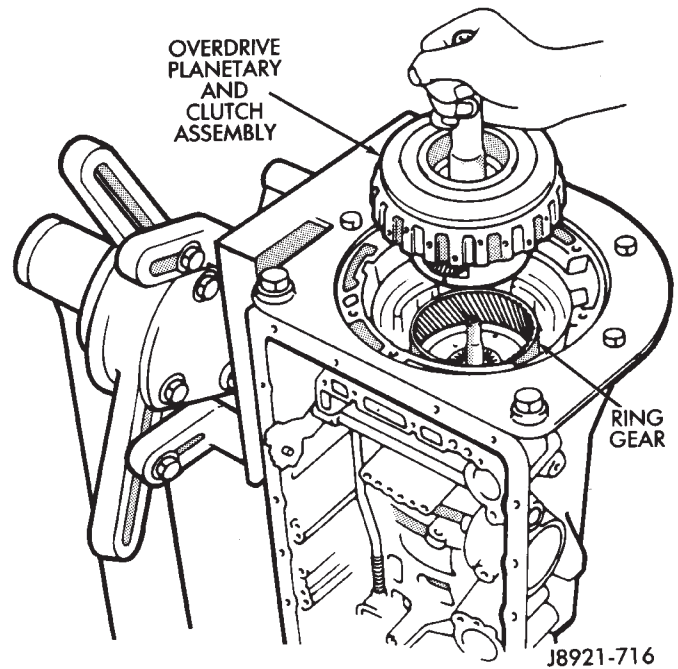

Fig. 49 Installing Overdrive Planetary And Clutch Assembly
(61) Install assembled overdrive planetary gear and clutch (Fig. 49).